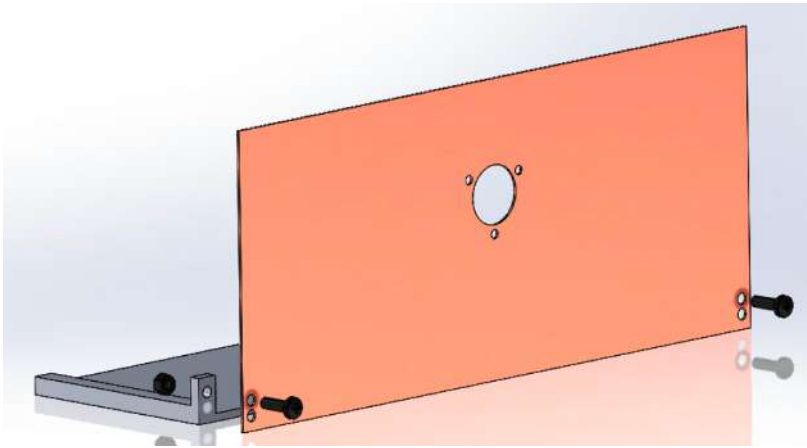

Figure 5: Motor stand and Face connected via two M5 screws
1. Using two M5 screws, attach copper face to copper stand. One screw on each side staggered, as illustrated in figure 5.